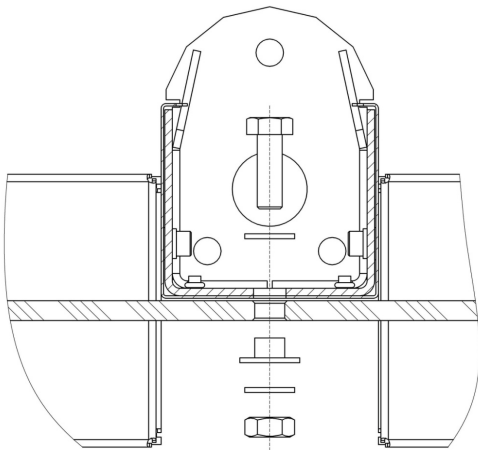

Figure 29. Filling glass fixing in the ST-01 central post
7. Remove the front panels (8) from both posts.
8. Using S17 open-end and Allen wrenches, unscrew and remove 6 M10×30 screws with washers, plastic bushing and screws fixing the filling glass (two in each bracket of the side posts and two in the central post) (see Fig. 29, 30).